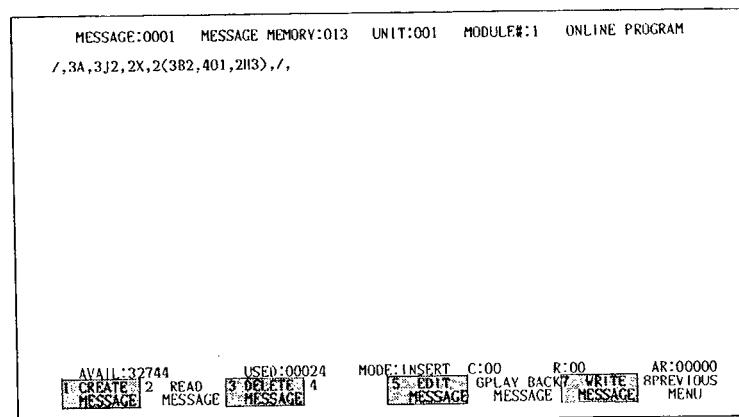

Fig. 7.96
- Depressing CANCEL key calls up the display as shown in Fig. 7.96 again without executing anything. Restart the storing process by resetting the message No.